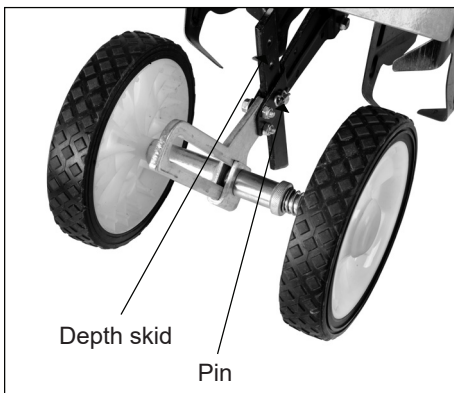
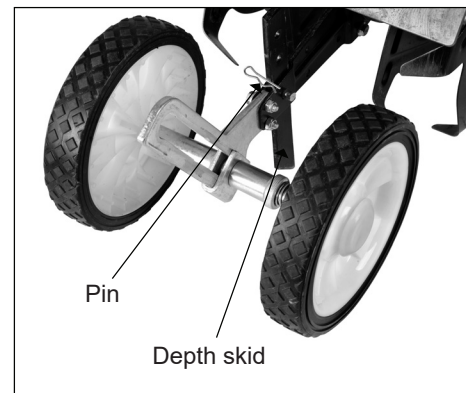

**Fig.6**
**Fig.7**
- When not working, the wheels need putting in the middle or the bottom groove (depend on operators height). Fig 6 & Fig 7